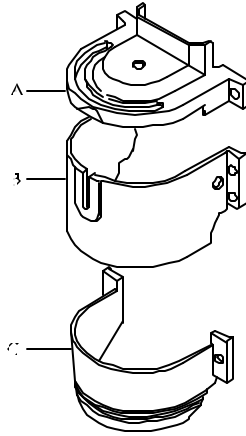

Figure 2
4. Using a 3 mm Allen Wrench **remove** 6 screws and B and C Sewing Head Covers. See Figure 2.